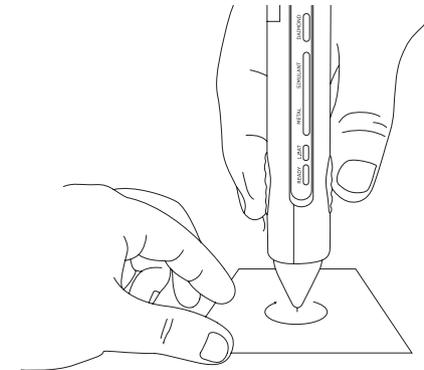

Fig. 1.5
- Hold the probe pen with pen tip forming the right angle (90 degree) with an oxidation removal. Gently move in a circular motion without retracting the tip (Fig. 1.5).